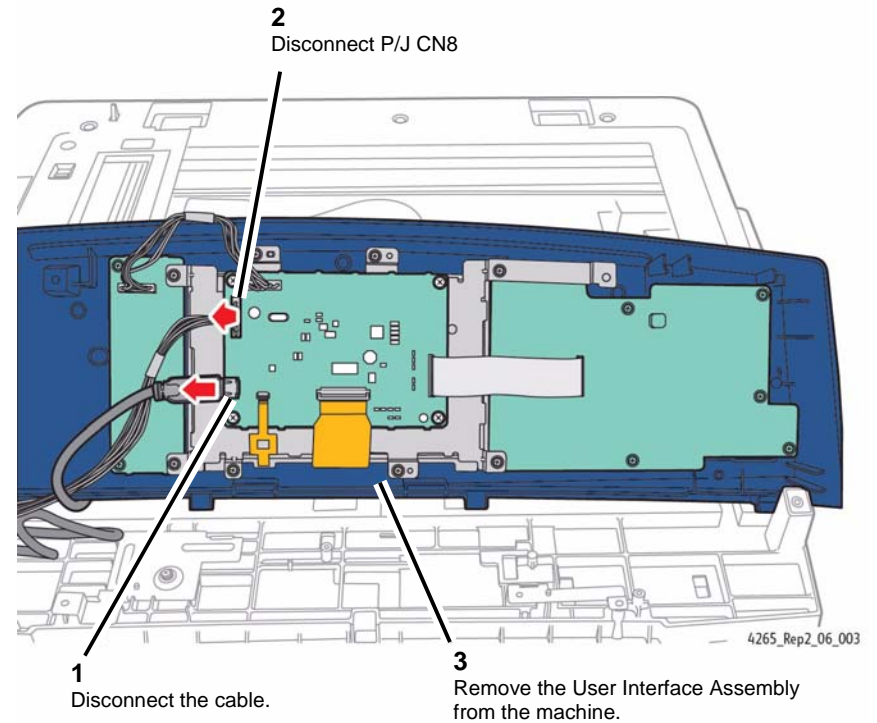

Figure 3 Removing the User Interface Assembly
- Remove the User Interface Assembly (Figure 3).